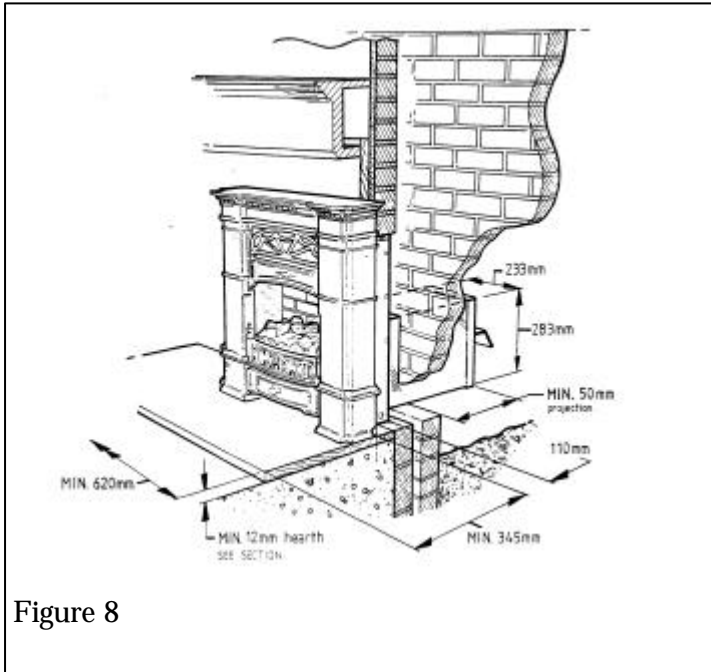

Figure 8
5.3 BRICK, STONE ETC. BUILDING. CONVECTION BOX RECESSED INTO WALL (Figure 8)
5.3.2. The non-combustible hearth must project at least 345mm in front of the convection box front flanges and be at least 620mm wide (Figure 8).
5.3.6 The rectangular hole through the wall to cater for the flue box should be to the size shown in Figure 8. The bottom of the hole should be at the same level as the top surface of the hearth. In almost every case, it will not be necessary to support this hole with a lintel. If, however the wall is of poor construction seek expert building advice before commencing to